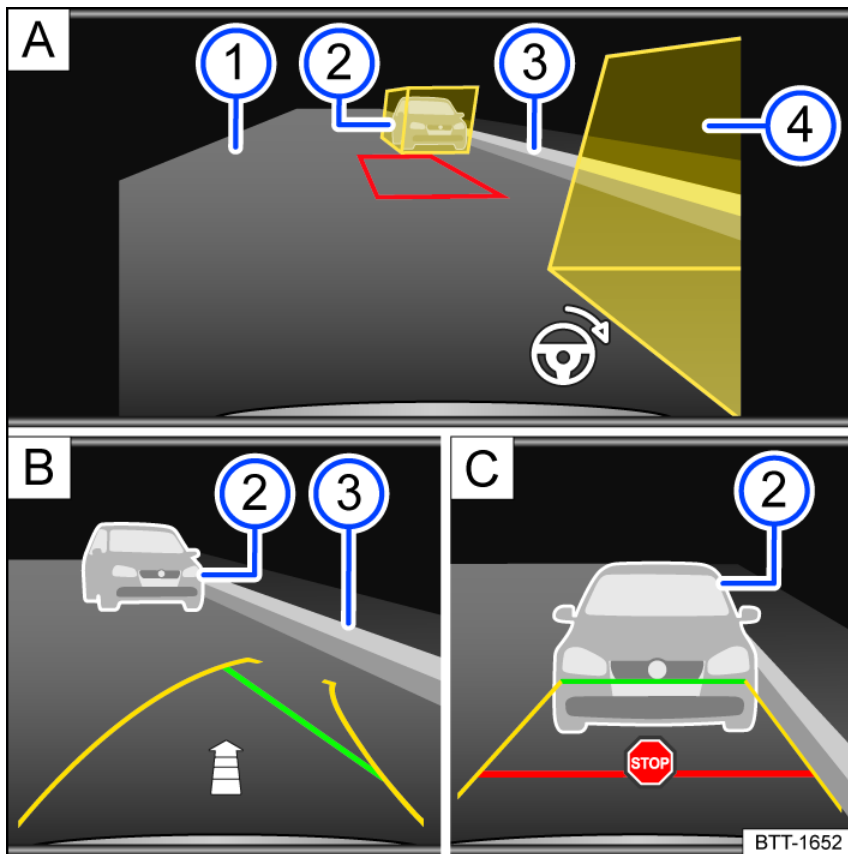

Fig. 117 Infotainment system: Parking parallel to the road.
- ① Road surface.
- ② Obstacle or assisting box.
- ③ Side boundary of the parking space.
- ④ Obstacle or assisting box.
4. Position the vehicle at a distance of approximately 1 m (3 ft) parallel to the parking row. The yellow assisting boxes must cover the obstacles fig. 117 A ②. The area in between must be free of obstacles.
5. Select the reverse gear. A red frame represents the target position of your vehicle fig. 117 A.
6. Turn the steering wheel until the red frame moves between the assisting boxes and becomes green fig. 117 A. Hold the steering wheel in this position while driving in reverse.
7. Drive slowly in reverse until the  stop symbol appears or the green line aligns with the side boundary of the parking space fig. 117 C. An fig. 117 B arc indicates the remaining distance to be driven based on the number of displayed segments.